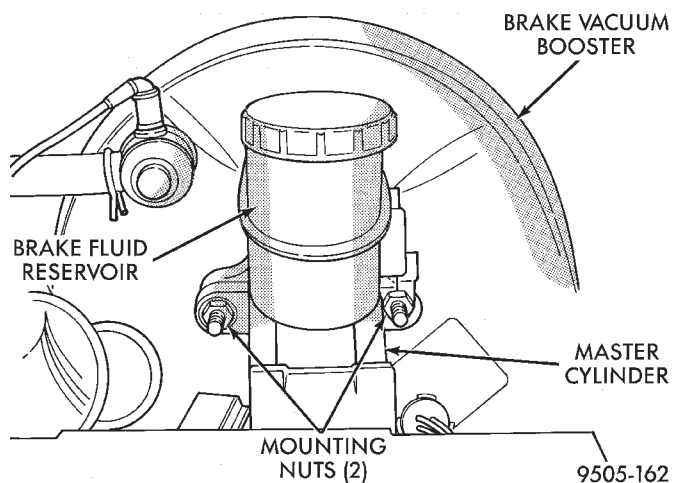

Fig. 87 Master Cylinder Mounting To Vacuum Booster
(3) Using Mopar, Brake Parts Cleaner or an equivalent, clean area where master cylinder attaches to booster.
(4) Remove the 2 nuts (Fig. 87) attaching master cylinder assembly to power brake vacuum booster.
(1) Position master cylinder assembly on studs of power brake unit, aligning push rod on power brake vacuum booster with piston of master cylinder.
(2) Install the 2 master cylinder to power brake vacuum booster mounting nuts (Fig. 87). Tighten both nuts to a torque of 28 N·m (250 in. lbs.).